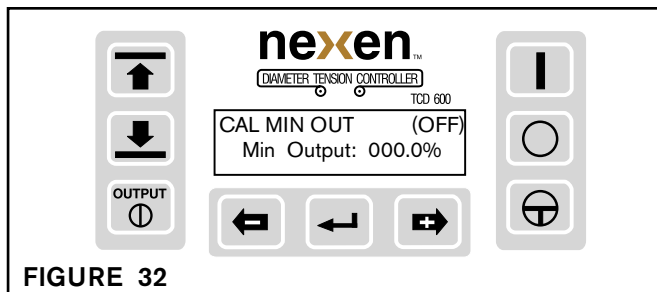

FIGURE 32
- CAL MIN OUT, Min Output: will appear in the display (See Figure 32). Using the plus or minus button, adjust the output until the clutch is fully engaged, then decrease the value until the clutch is slightly disengaged and press the Enter button.